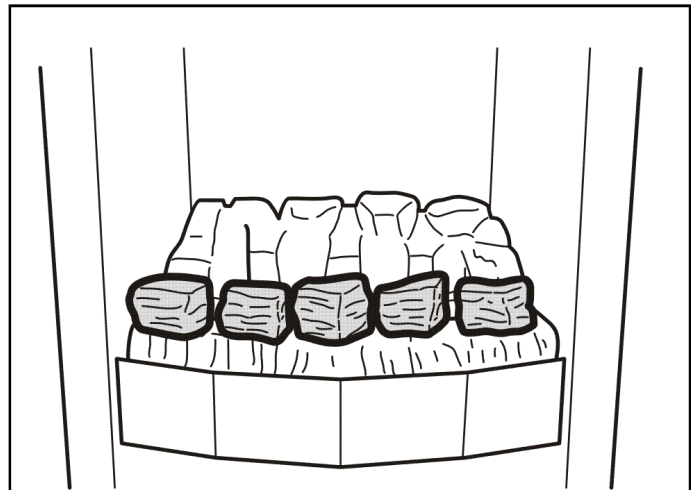

Figure 21. First row of ceramic coals
2. Install the fourteen loose overlay ceramic coals as follows. The smooth surfaces of the ceramic coals should be at the bottom and back. Place five of the ceramic coals along the top of the front base coal (See figure 21). The ceramic coals should be evenly spaced. Each ceramic coal can be rotated to give a random effect. Placing the ceramic coals with flat sides facing forward will give a very uniform appearance.